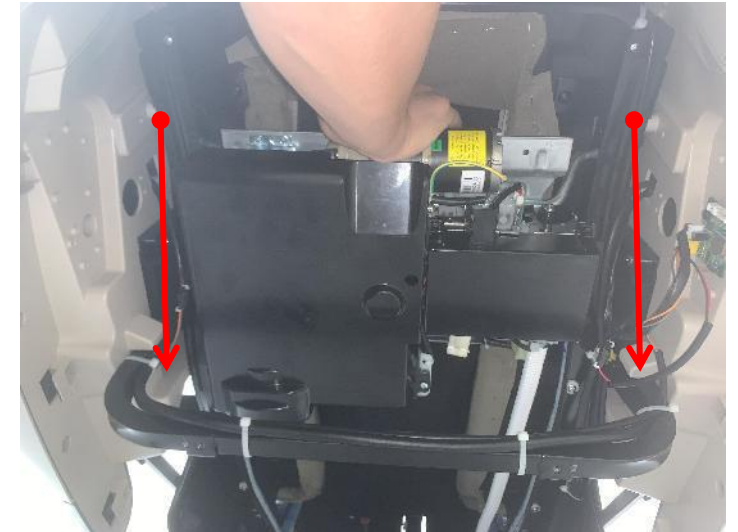

Figure 3
3. Push the manipulator down to expose the fixing screws of the guide rail patch for easy disassembly (Figure 3)
4.6. Disassembly Schematic Diagram of Manipulator Massage Assembly (2)